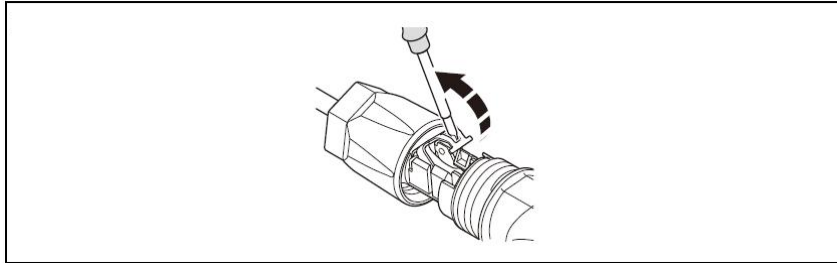

Figure 5-12
3. Open the spring using a screwdriver (Figure 5-12).